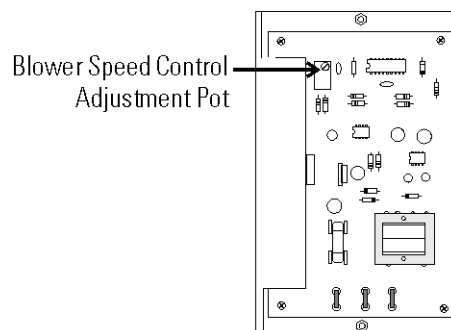

Figure 9-1. Pot Location
4. Open the hinged control panel by removing the screw on the top and bottom of the control panel and swinging the panel door open. Locate the blower motor circuit board. (Figure 9-1 & 9-2) Using a true RMS voltmeter, measure and record the voltage drop across the white and black wires leading to the terminal strip. (Figure 9-1) The blower speed control adjustment pot is located on the upper left side of the board. Clockwise adjustment of this pot increases voltage supply to the blower motor, counterclockwise adjustment lowers the voltage supply. Adjust it 2-3 volts, up or down, depending upon the airflow required. Retake the airflow measurements.
The blower speed control is accessed from the rear of the control panel by removing the thumbscrew on the exterior top and screw located at the bottom front of the control panel. Swing the control panel door open. The blower speed is adjusted by turning the screw on the variable resistor mounted on the circuit board adjacent to the controller. Refer to Figure 9-1. Turning the screw clockwise increases air velocity; counter-clockwise decreases it.